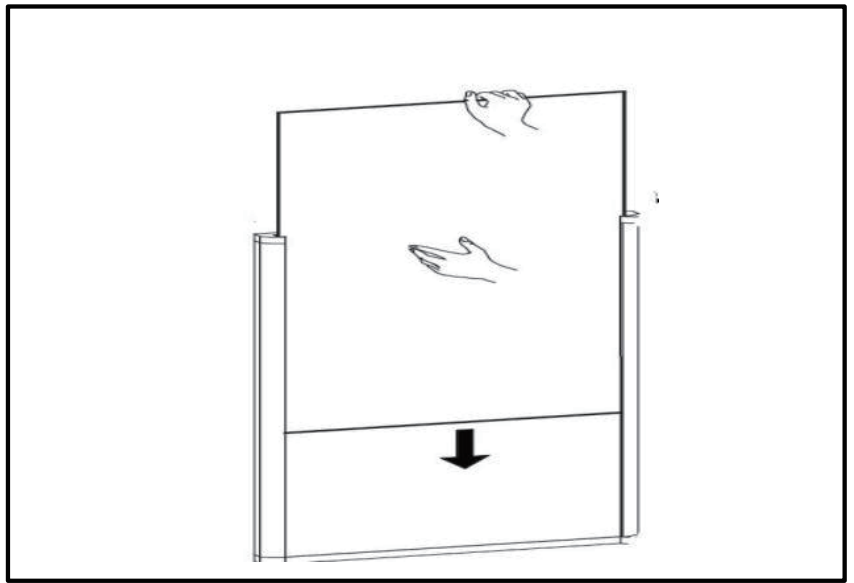

FIG 13
2. Locate decoration strips. Loosen screws and remove strips. See FIG 13